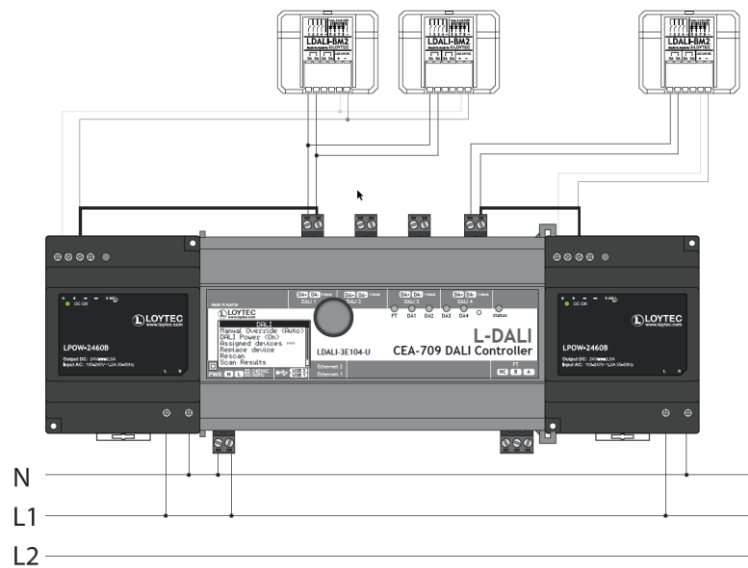

Figure 30: Feedback-LED supplied by 24V power supply
- Use separate 24 V DC power supplies for supplying feedback LEDs on different DALI-lines. Establish a single point connection according Figure 30.